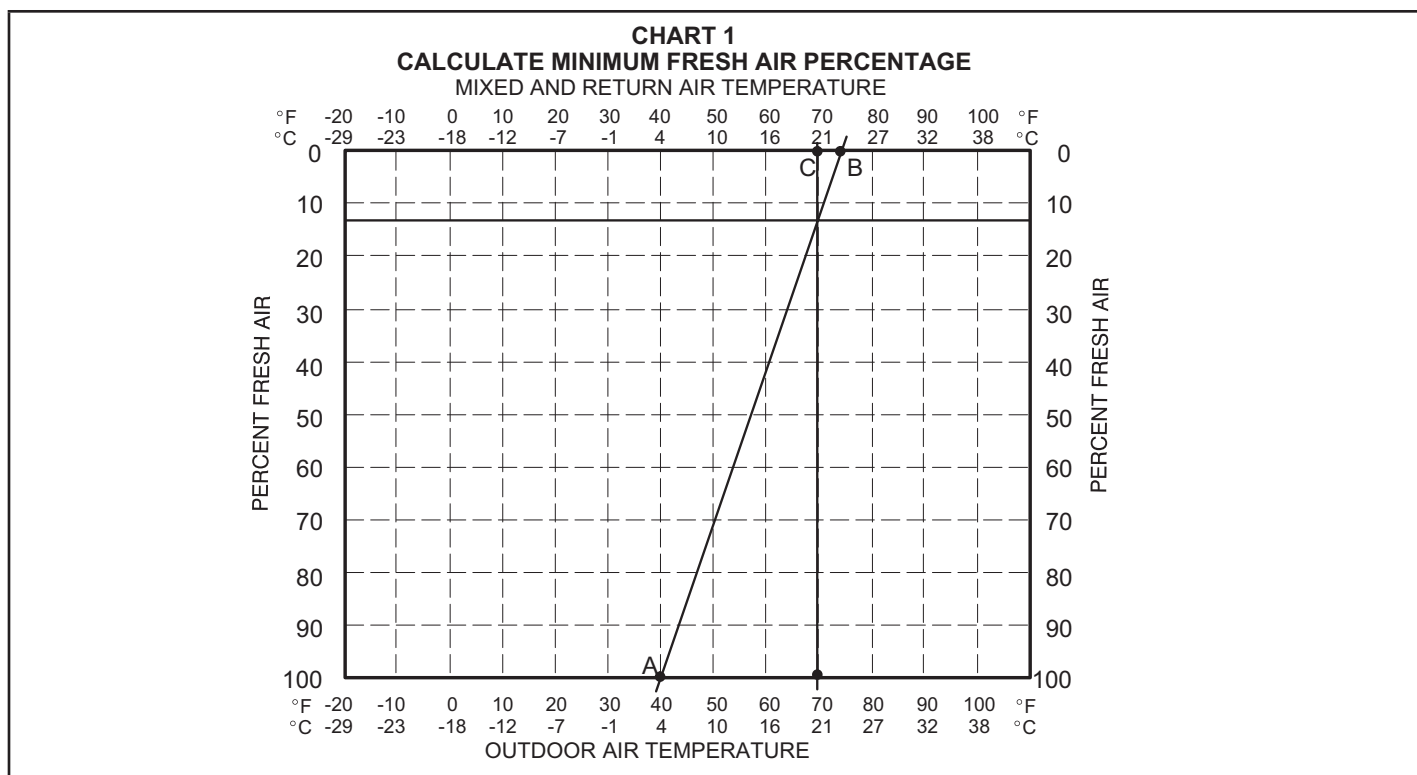

FIGURE 34
- 4 - Measure return air temperature. Mark that point on the top line of chart 1 figure 34 and label the point "B" (74F, 23C shown).